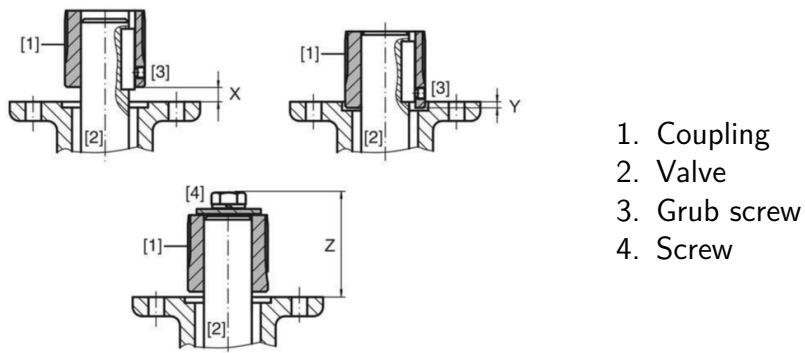

Figure 4.6: Cross sections of different couplings
The actuator is mounted to the valve using an output drive plug sleeve (refer figure 4.6). Ensure compliance of fitting dimensions according to table 4.2 below.
4. Place coupling [1] onto valve shaft [2] and secure against axial slipping by using a grub screw [3], a retaining ring or a screw. Thereby, ensure that dimensions X, Y or Z are observed (refer to figure 4.6 and table 4.2).